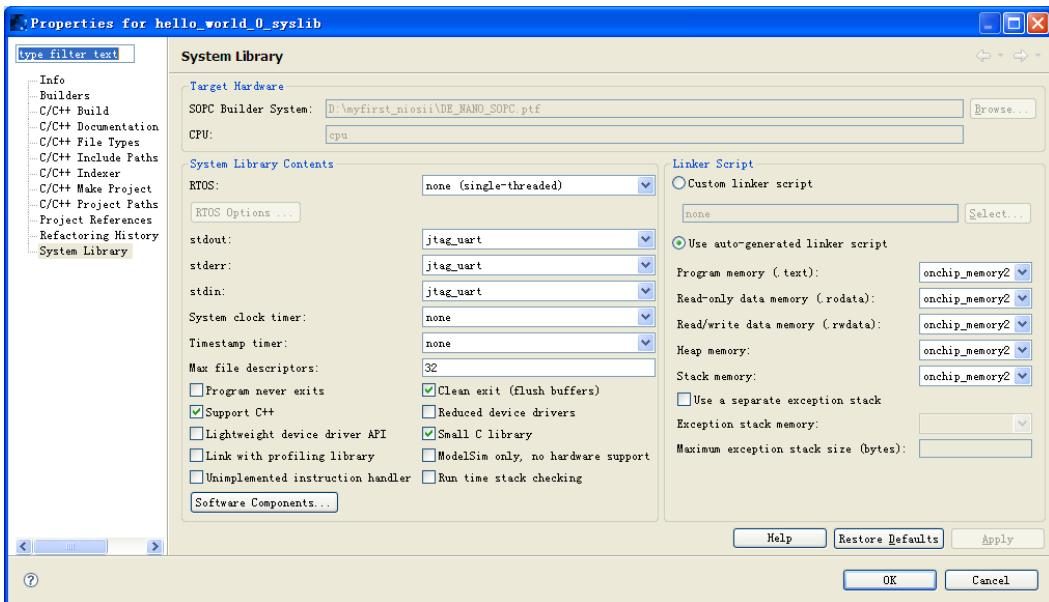

Figure 7-59 Configuring System Library Properties
3. In the **Linker Script** box, observe which memory has been assigned for **Program memory(.text)**, **Read-only data memory(.rodata)**, **Read/write data memory(.rwdta)**, **Heap memory**, and **Stack memory**, see Figure 7-59. These settings determine which memory is used to store the compiled executable program. You can also specify which interface you want to use for `stdio` , `stdin`, and `stderr`. You can also add and configure an RTOS for your application and configure build options to support C++, reduced device drivers, etc.
4. Select **onchip\_memory2** for all the memory options in the **Linker Script** box, as shown in **Figure 7-59**.